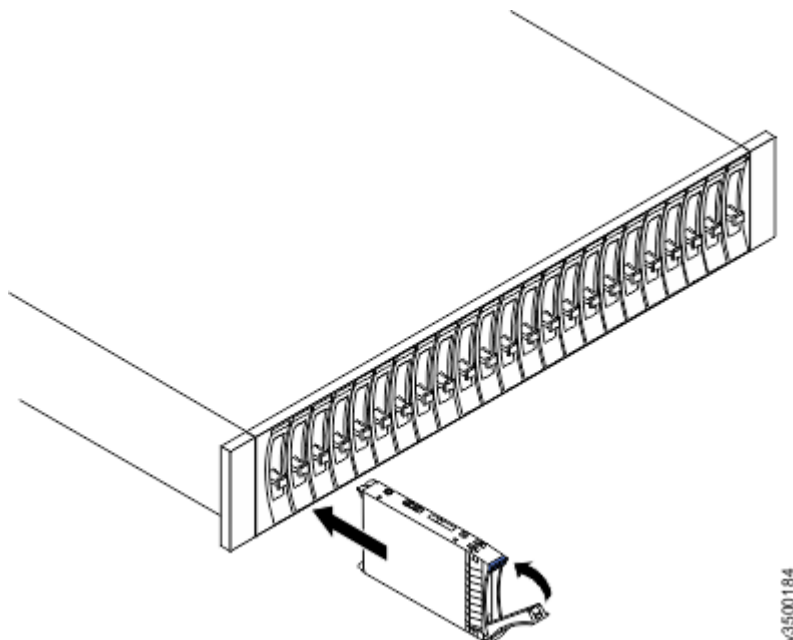

Figure 88. Installing and locking a 2.5-inch drive into its slot
13. Align the drive assembly with the guide rails in the bay (see Figure 88 on page 139).